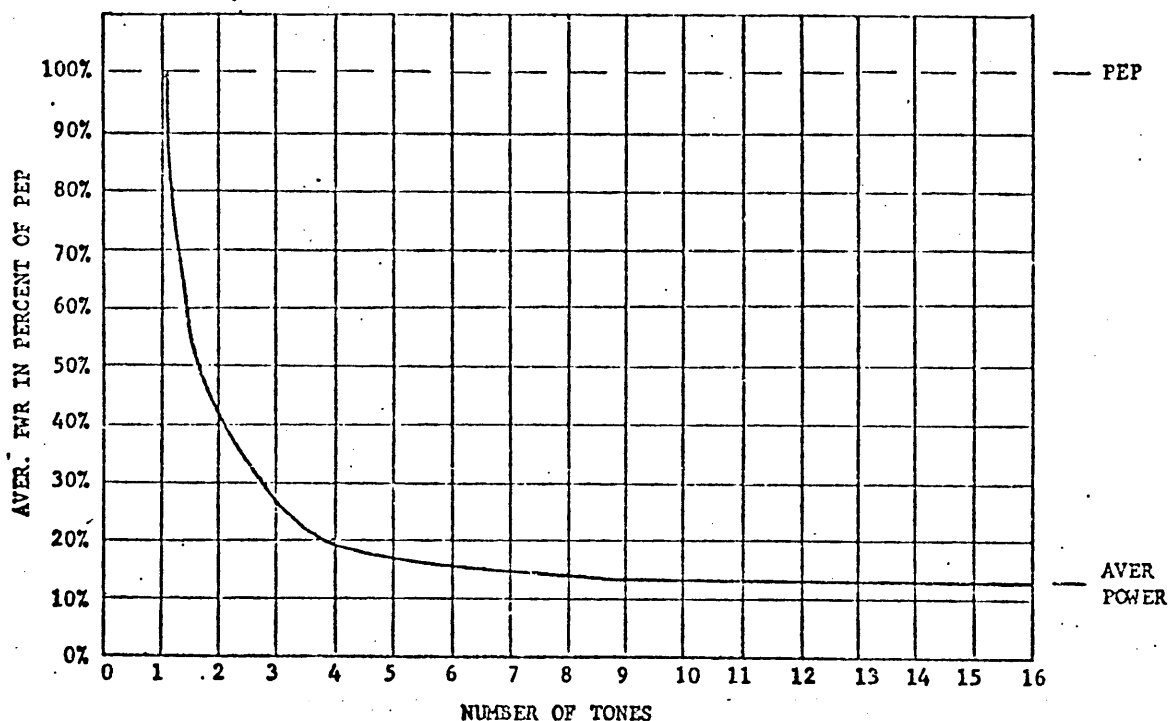

Figure 3-1. Ratio of Average Power and PEP
1-150 watts, 2-500 watts, 3-750 watts, 4-1000 watts, or to power levels selected and adjusted by the customer), the amplifier was driven to that power level and that same power level was indicated on the OUTPUT meter. The peak envelope power and average power were equal, since all of the power was contained in a single tone, the carrier. In multitone or voice transmission, however, the peak envelope power and average power are not equal. The peak envelope power is derived from the addition of the carrier voltage and the voltage of each individual tone when the carrier and tones are in phase, at the crest of the modulation wave. The transmitter is capable of providing 1,000 watts PEP in all intelligence modes; however, the average power, the power which is monitored by the OUTPUT meter, will be decreased in a multitone transmission: The more tones (teletype tones, carrier, voice, etc.) which are being transmitted, the less average power, as indicated on the OUTPUT meter. Figure 3-1 shows average power (measured in percent of peak envelope power) as a function of the number of tones being transmitted.
Two typical examples of proper operation, utilizing the relationship shown in figure 3-1, are given as follows:
(1) An A3J transmission of two teletype tones at the position 4 power level (1,000 watts PEP): The MMX(A)-2 MODE switch should be in the USB position and the CARRIER SUPPRESSION switch in the FULL position, providing full suppression of carrier. The transmission contains two tones, and by reference to figure 3-1 the maximum average power should be approximately 50% of the 1,000 watt PEP, or 500 watts average. The USB audio level control on the MMX(A)-2 should be adjusted so that the transmitter OUTPUT meter reads approximately 500 watts average.
(2) A3H transmission of voice at the position 3 power level (800 watts PEP): The MMX(A)-2 MODE switch should be in the USB position and the CARRIER SUPPRESSION switch in the 6 db position, providing carrier
A voice transmission contains an infinite number of tones, and by reference to figure 3-1, the average power for an infinite number of tones should be approximately 10% of the PEP available for tone transmission, or 10% of 200 watts (20 watts). The CARRIER SUPPRESSION switch in the 6 db position will provide approximately 200 watts on the transmitter OUTPUT meter, and the USB audio level control on the MMX(A)-2 should be adjusted so that the transmitter OUTPUT meter reads approximately 220 watts average (the addition of carrier and intelligence power).